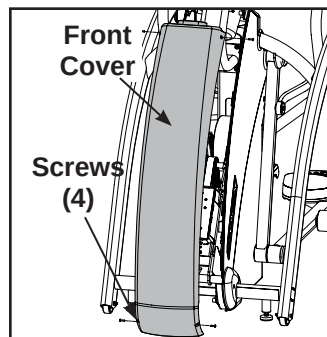

Figure 2
A. Using a Phillips screwdriver, remove the four screws securing the front cover. See Figure 2.